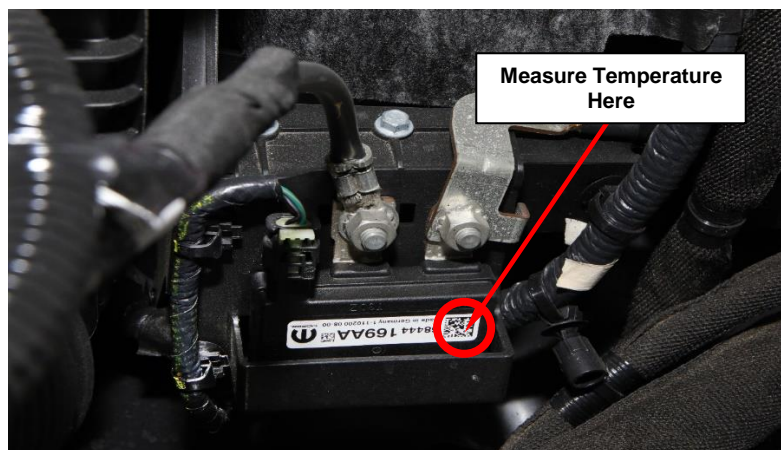

Figure 3 – Temperature Measurement Location
15. Measure the temperature of the Grid Heater Relay during the test in the specific location as illustrated in Figure 3 when prompted by wiTECH.